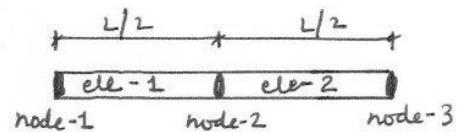

Figure 1.2
- (b) Obtain the expressions for nodal displacements using FEM, by discretizing the bar into two elements as shown in Figure 1.2.